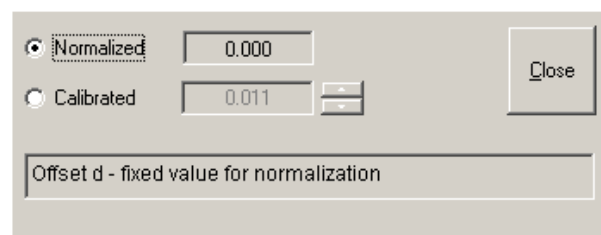

Fig. 4-72 Settings Offset panel
- You can either set the offset (see Fig. 4-72) to 0 by activating the **Normalized** option.